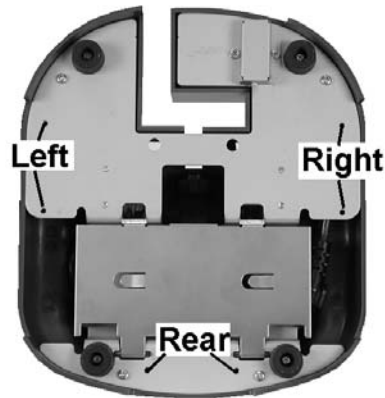

Figure 1: Mounting the Bracket
1. Determine the Mounting Bracket location. Figure 1 below, shows the base plate on the Workstation 5 Adjustable Stand. The Workstation 4 Adjustable Stand includes the same hole locations on its base plate.